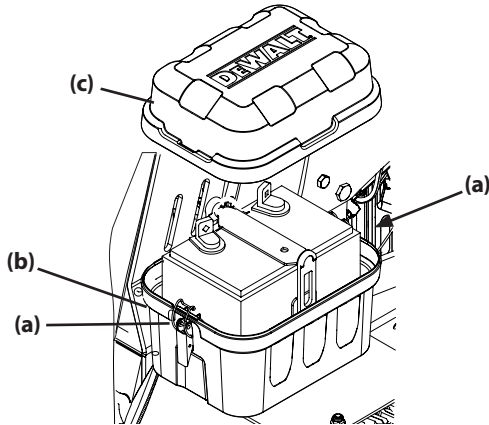

Figure 5
1. Release the two latches securing the battery cover (a) to the battery box (b) and remove the battery box lid (c). See Figure 5.